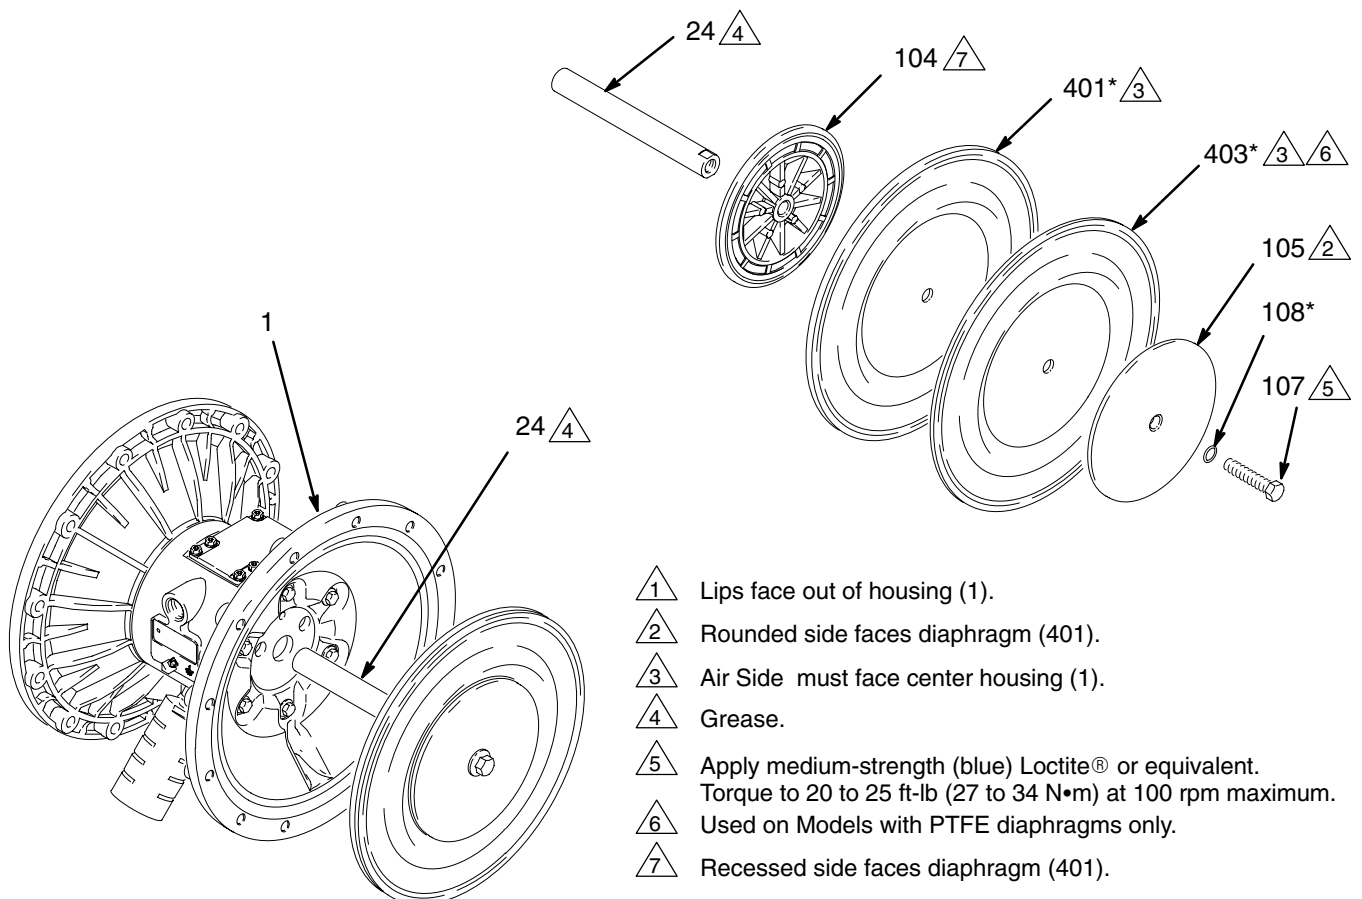
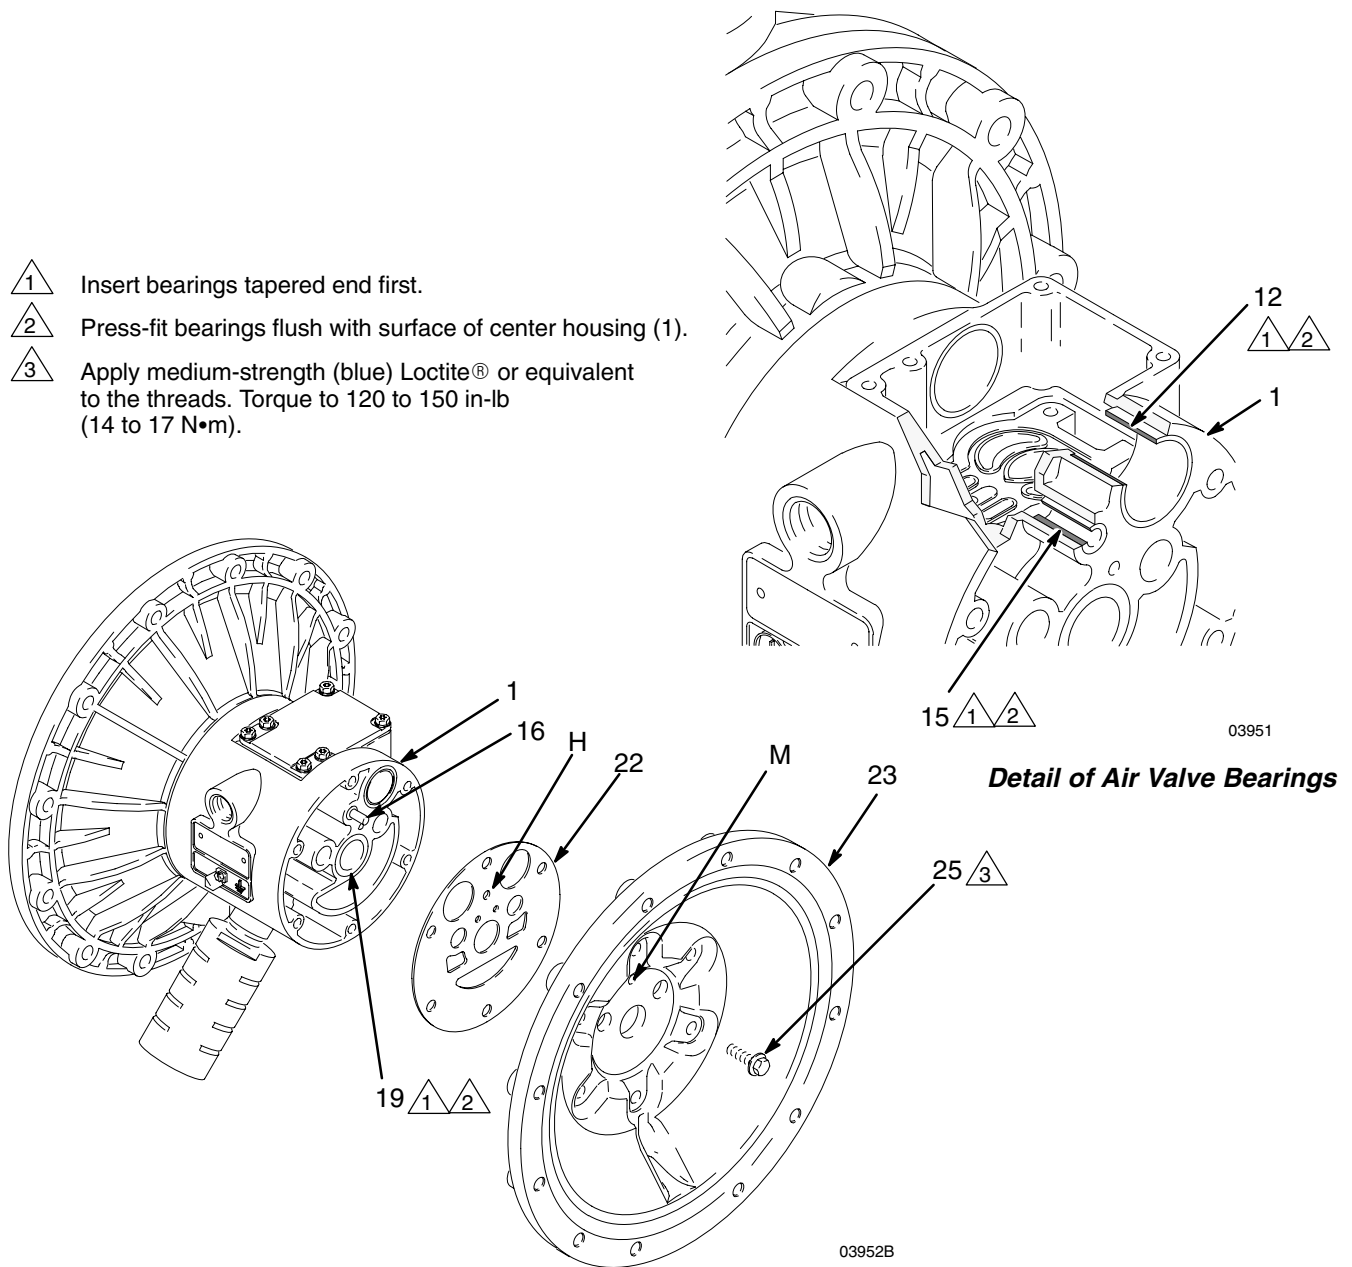

Fig. 12
Fig. 13
4. Loosen but do not remove the diaphragm shaft bolts (107), using a 15 mm socket wrench (1" on stainless steel models) on both bolts.
5. Unscrew one bolt from the diaphragm shaft (24) and remove the o-ring (108), fluid side diaphragm plate (105), PTFE diaphragm (403, *used on PTFE Models only*), diaphragm (401), and air side diaphragm plate (104). See Fig. 12.
6. Pull the other diaphragm assembly and the diaphragm shaft (24) out of the center housing (1). Hold the shaft flats with a 19 mm open-end wrench, and remove the bolt (107) from the shaft. Disassemble the remaining diaphragm assembly.
7. Inspect the diaphragm shaft (24) for wear or scratches. If it is damaged, inspect the bearings (19) in place. If the bearings are damaged, refer to page 18.
8. Reach into the center housing (1) with an o-ring pick and hook the u-cup packings (402), then pull them out of the housing. This can be done with the bearings (19) in place.
1. Install the shaft u-cup packings (402*) so the lips face **out** of the housing (1). Lubricate the packings. See Fig. 12.
2. Install the diaphragm assembly on one end of the shaft (24) as follows:
- a. Install the o-ring (108*) on the shaft bolt (107).
- b. Install the fluid side diaphragm plate (105) on the bolt so the rounded side faces in, toward the diaphragm (401).
- c. *On PTFE Models only*, install the PTFE diaphragm (403*). Make certain the side marked AIR SIDE faces the center housing (1).
- d. Install the diaphragm (401*) on the bolt. Make certain the side marked AIR SIDE faces the center housing (1).
- e. Install the air side diaphragm plate (104) so the recessed side faces the diaphragm (401).
- f. Apply medium-strength (blue) Loctite® or equivalent to the bolt (107) threads. Screw the bolt into the shaft (24) hand tight.
3. Grease the length and ends of the diaphragm shaft (24), and slide it through the housing (1).
5. Hold one shaft bolt (107) with a wrench and torque the other bolt to 20 to 25 ft-lb (27 to 34 N•m) at 100 rpm maximum.
5. Using a 10 mm socket wrench, remove the screws (25) holding the air covers (23) to the center housing (1). See Fig. 13.
6. Remove the air cover gaskets (22). Always replace the gaskets with new ones.
7. Use a bearing puller to remove the diaphragm shaft bearings (19), air valve bearings (12) or pilot pin bearings (15). Do not remove undamaged bearings.
8. If you removed the diaphragm shaft bearings (19), reach into the center housing (1) with an o-ring pick and hook the u-cup packings (402), then pull them out of the housing. Inspect the packings. See Fig. 12.
1. If removed, install the shaft u-cup packings (402*) so the lips face **out** of the housing (1).
2. The bearings (19, 12, and 15) are tapered and can only be installed one way. Insert the bearings into the center housing (1), **tapered end first**. Using a press or a block and rubber mallet, press-fit the bearing so it is flush with the surface of the center housing.
4. Align the new air cover gasket (22) so the pilot pin (16) protruding from the center housing (1) fits through the proper hole (H) in the gasket.
5. Align the air cover (23) so the pilot pin (16) fits in the middle hole (M) of the three small holes near the center of the cover. Install the screws (25), handtight. See Fig. 13. Using a 10 mm socket wrench, torque the screws oppositely and evenly to 120 to 150 in-lb (14 to 17 N•m).